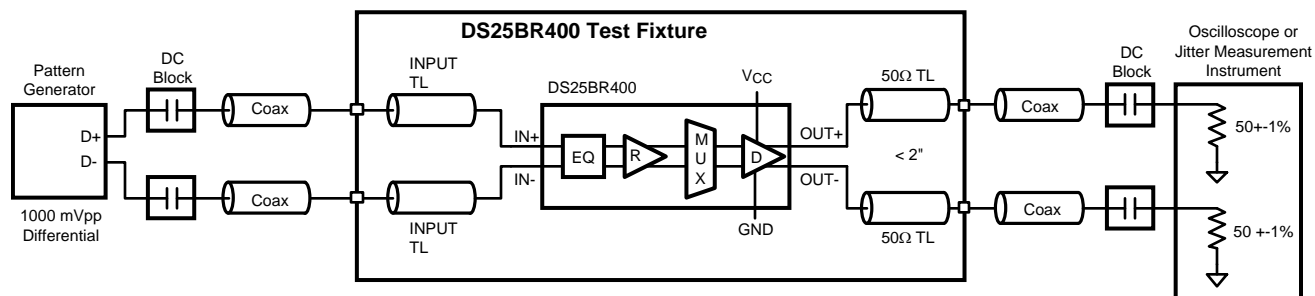

Figure 7. AC Test Circuit
(4) All CML Inputs and Outputs must be AC coupled for optimal jitter performance.
(5) t_{SKO} is the magnitude difference in propagation delays between all data paths on one device. This is channel-to-channel skew. t_{SKPP} is the worst case difference in propagation delay across multiple devices on all channels and operating under identical conditions. For example, for two devices operating under the same conditions, t_{SKPP} is the magnitude difference between the shortest propagation delay measurement on one device to the longest propagation delay measurement on another device.
(6) Device output random jitter is a measurement of random jitter contributed by the device. It is derived by the equation $\sqrt{RJ_{OUT}^2 - (RJ_{IN})^2}$, where RJ_{OUT} is the total random jitter measured at the output of the device in ps(rms), RJ_{IN} is the random jitter of the pattern generator driving the device. Below 400 Mbps, system jitter and device jitter could not be separated. The 250 Mbps specification includes system random jitter. Please see Figure 7 for the AC test circuit.
(7) Device output deterministic jitter is a measurement of the deterministic jitter contribution from the device. It is derived by the equation $(DJ_{OUT} - DJ_{IN})$, where DJ_{OUT} is the total peak-to-peak deterministic jitter measured at the output of the device in ps(p-p). DJ_{IN} is the peak-to-peak deterministic jitter at the input of the test board. Please see Figure 7 for the AC test circuit.
(8) This parameter is guaranteed by design and/or characterization and is not tested in production.